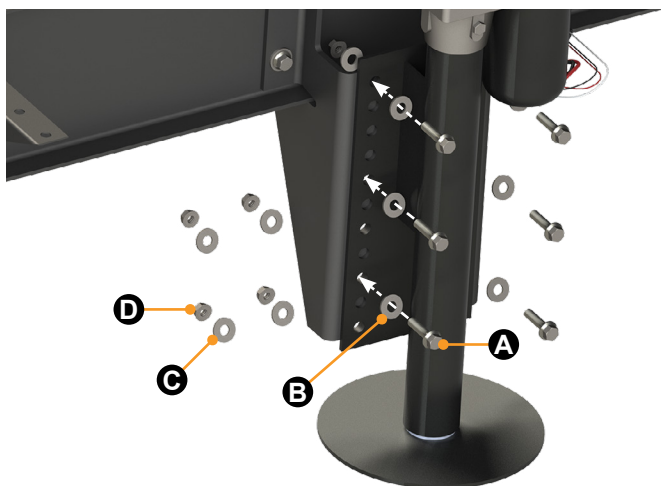

Fig.13
8. Distribute the fasteners evenly, three on each side of the bracket (Fig.13).